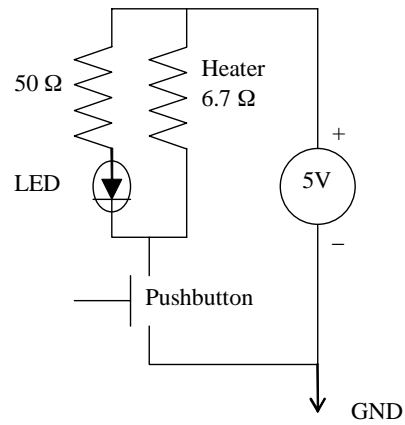

Figure 3.1: Basic heater circuit; the LED indicates when the heater is on.
1. Set up the circuit as shown in Fig.3.1. The heater is a segment of manganin wire wrapped around a block of aluminum. Manganin, like tungsten in an incandescent light bulb, has rather high electrical resistivity compared to copper. When the pushbutton is depressed, the circuit is completed and current flows through the heater. Be sure to make a sketch of the circuit in your laboratory notebook.